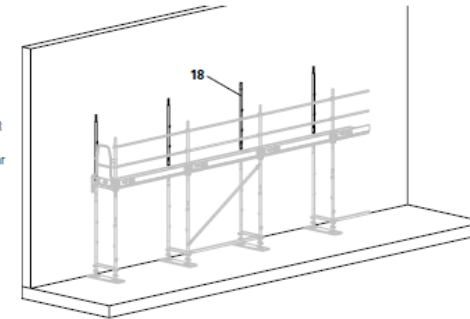

Fig. B4.01
1. Attach Tubes EVR 150 (18) to the inner side of the scaffolding. (Fig. B4.01)